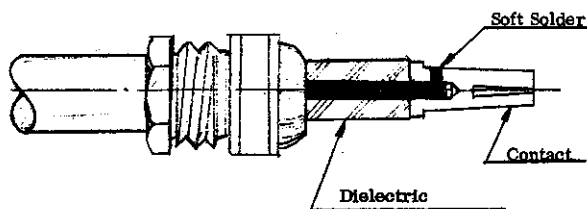

FIG. 4
5. Place contact onto center conductor and bottom on insulator bushing. Soft solder as shown using 60/40 alloy multicore solder with rosin or ersin flux. Remove any surplus solder from outside of contact and thoroughly clean insulator bushing of chips, flux, etc. (Fig. 4).